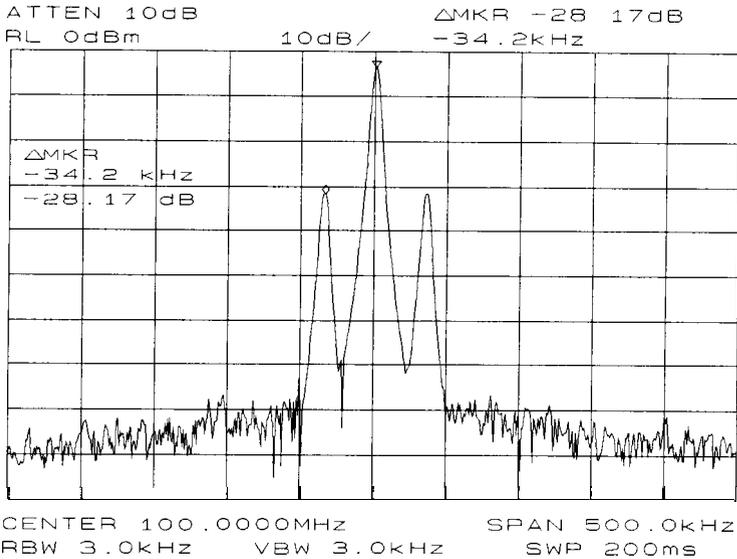

Figure 2-7. An Amplitude-Modulated Signal
4. Figure 2-7 illustrates the amplitude-modulated signal as seen on the spectrum analyzer display. Note the carrier signal. To determine its frequency, simply press **PEAK SEARCH**.